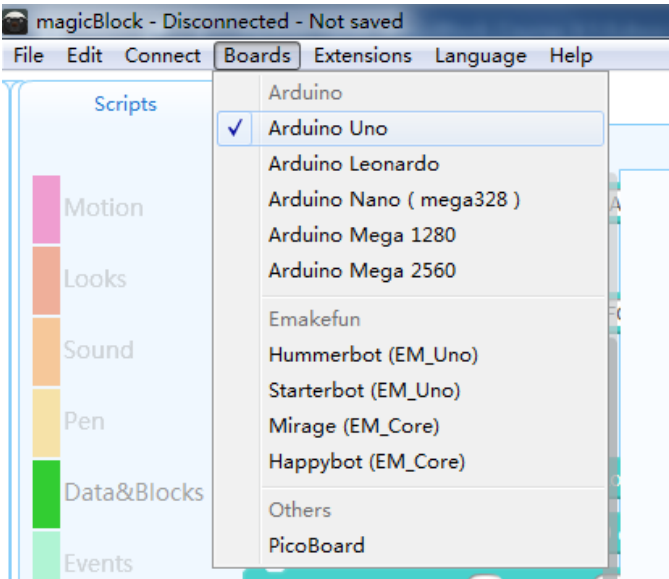
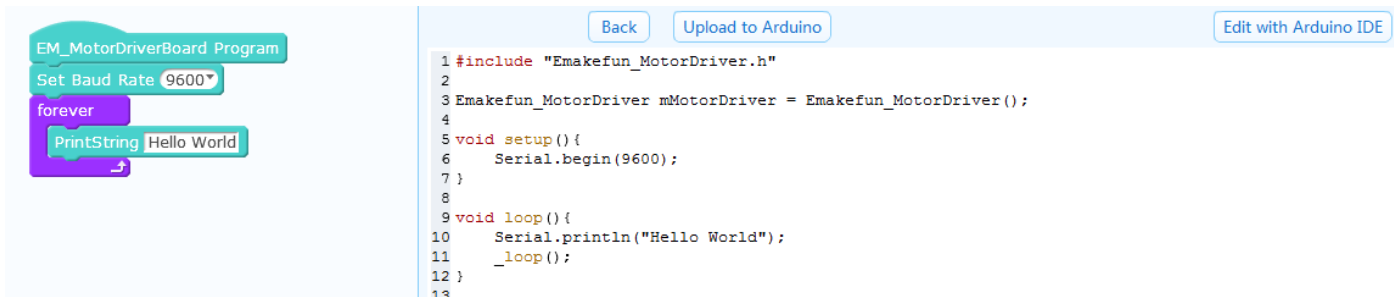

Figure 2-13
Figure 2-15
- 1) Select the type of control board for program transmission, select "Arduino Uno" as shown in Figure 2-13, and select "Edit Arduino Mode" as shown in Figure 2-15.